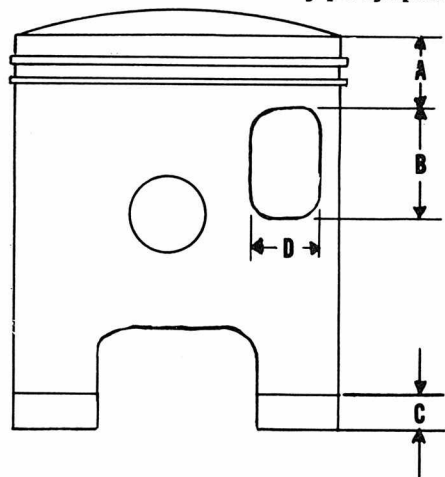

Fig. YT8-1—Drawing of standard R3 piston showing locations of comparison with road racing R3 RR piston.
Pistons in the R3 RR are 6 MM (0.236 inch) shorter in the skirt (C—Fig. YT8-1) than R3 models. Port in piston is 14.5 MM (0.57 inch) from top edge of piston (A); 21 MM (0.826 inch) high and 12 MM (0.47 inch) wide. Only one piston ring is used in racing models.